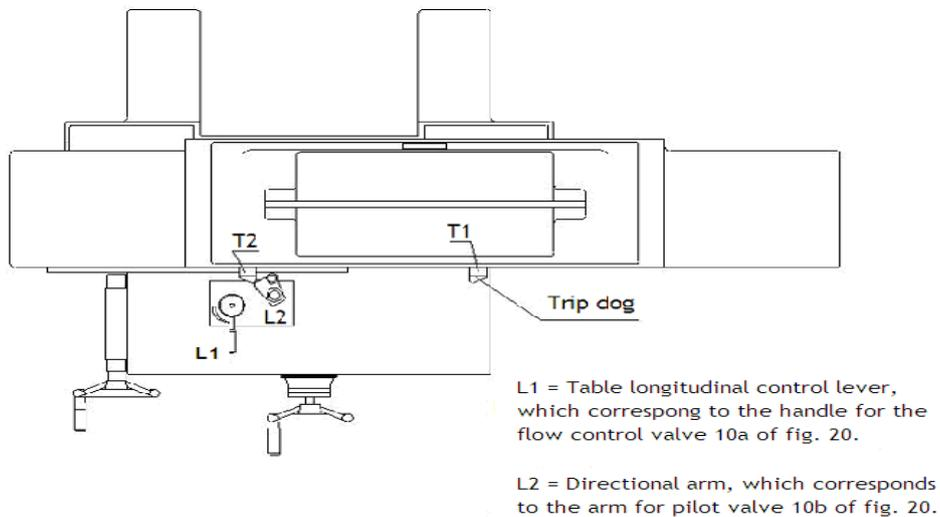

Fig. 3 Table Dogs
- (A) the table with saddle, and
- (B) the saddle with machine bases.
**2. Turn the table longitudinal control lever L1 to its valve closing position (Fig.3). Note: L1 correspond to the handle for flow control valve 10a of Fig.20.**
**3. Turn the directional arm L2 to its neutral position (L2 in Fig.3), correspond to the arm for pilot valve 10b of Fig.20.**
**4. Table dogs T1, T2 (Fig.3) must be well fixed at its proper position (not exceed its maximum stroke) in table slot.**
- 7.6.3 Take off arm L2 from its shaft L3 (Fig.5d) and turn L3 to a position with its marked line in a perpendicular direction as shown in Fig.5b. then re-put L2 on L3 in its correct position (as Fig.3)